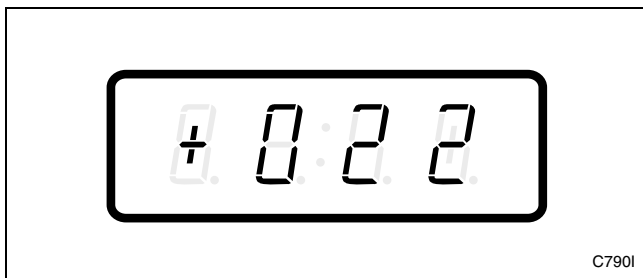

Figure 88
3. Press the LOW TEMP (+) or the NO HEAT (-) keypad to scroll through the programmable options until “+022” appears in the VFD. Refer to *Figure 88*.